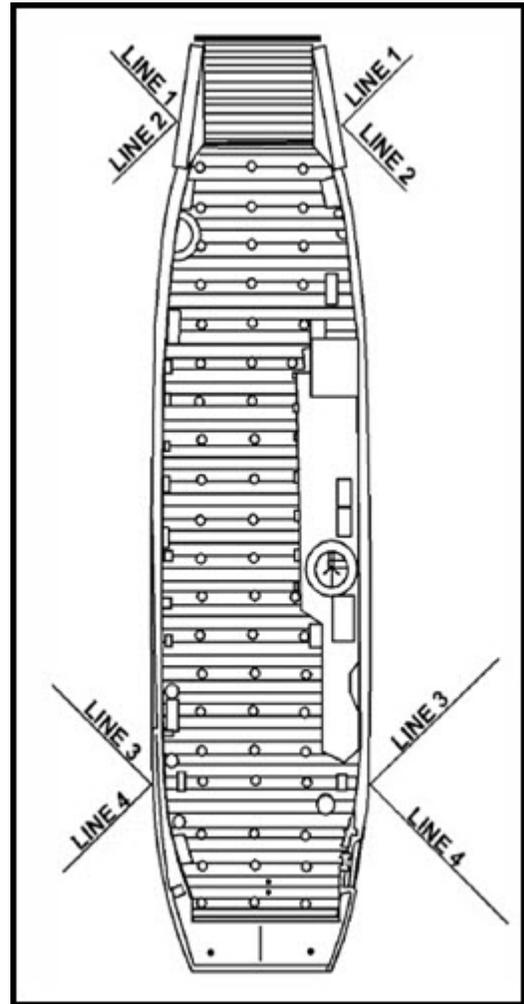

Figure 14-10 Line Handling Sequence for Single LCU
3. Pass over lines 1 and 3 as indicated in Figure 14-10. Sterngate may be raised to 45 degrees to minimize wave action.